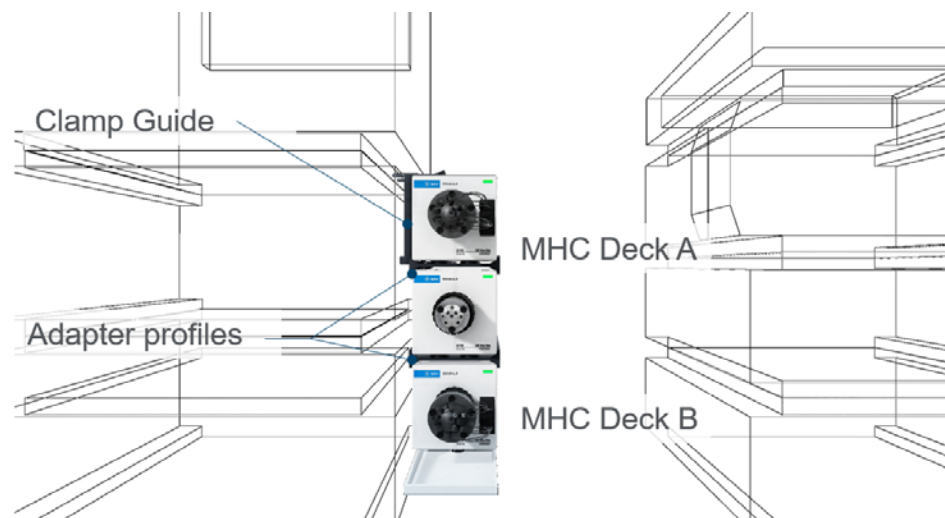

Figure 50 Schematic of the installation and attachments of the Bio 2D-LC valve and optionally the MHC decks
- 4 Attach the adapter-profile on each of the other external valve drives and mount them according to the positions shown in Figure 50 on page 94.